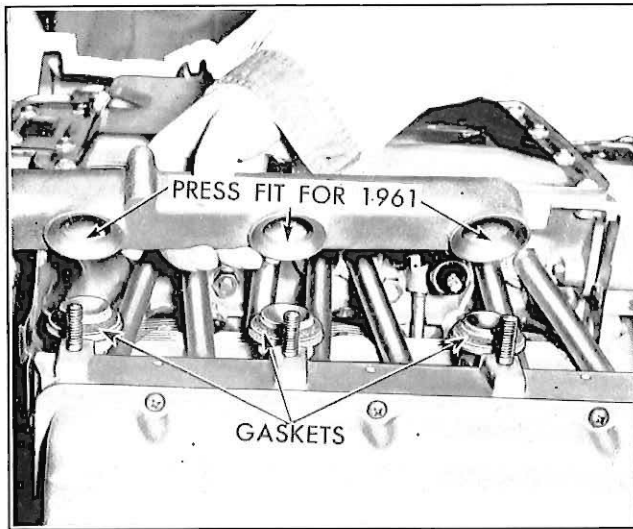

Fig. 16—Exhaust Manifold and Sleeve
- The exhaust sleeves for 1961 are now a press fit into the exhaust manifold (Fig. 16). Refer to 1961 Corvair Shop Manual for service procedure.